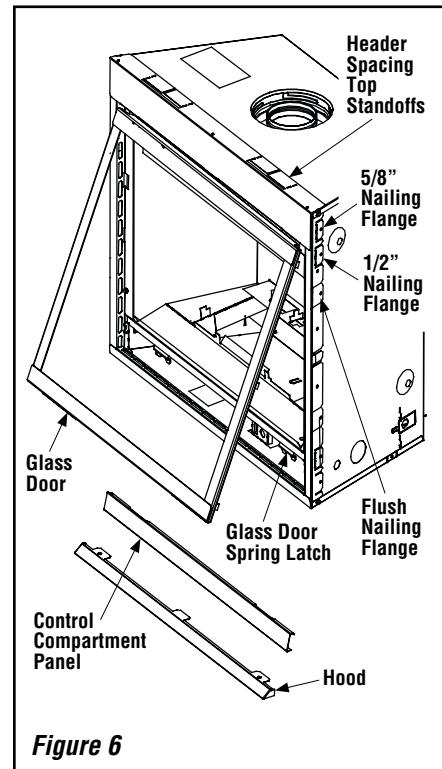

Figure 6
Removing Glass Enclosure Panels (see *Figure 6*)
1. To access the glass door securing latches, first open the lower control compartment door (*Figure 6*) by lifting and pulling the bottom panel forward.
5. Position the door in front of the firebox opening with the bottom of the door held away from the fireplace (*Figure 6*). Hook the top flange of the door frame over the top of the firebox frame.